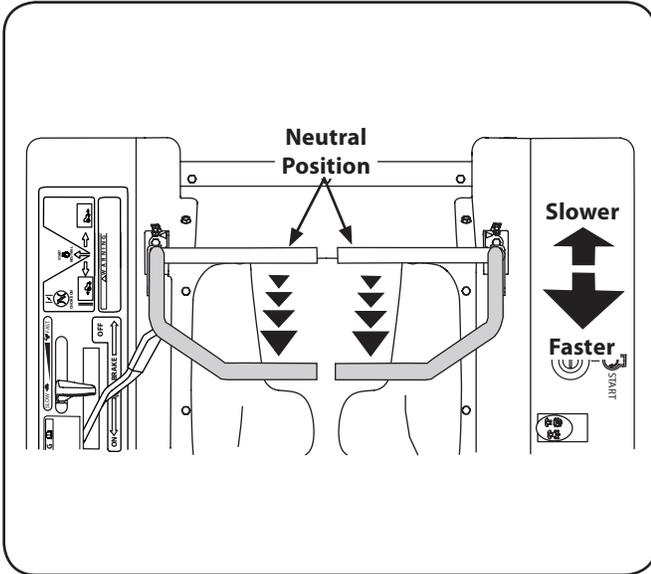

Figure 5-5
1. Slowly and evenly move both drive control levers rearward. The tractor will start to move in the reverse direction. See Fig. 5-5.